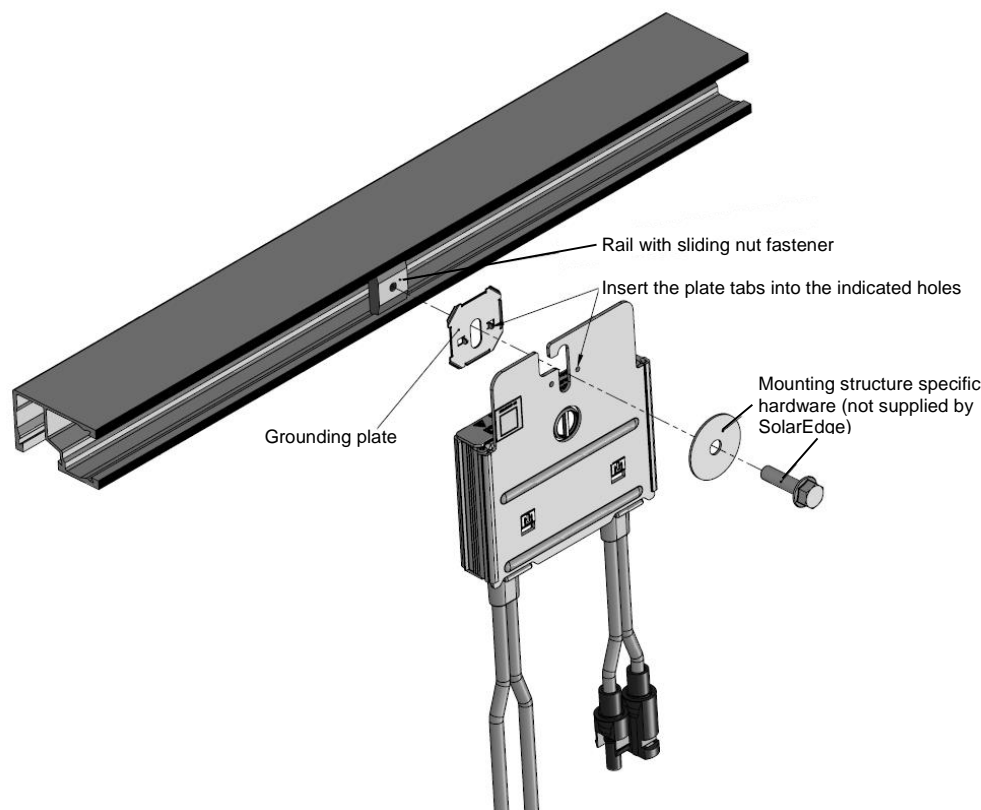

Figure 1: Example of grounding a power optimizer using the grounding plate
2. Attach a grounding plate to the power optimizer (see Figure 1): Insert the two plate tabs into the two designated holes in the power optimizer back cover.